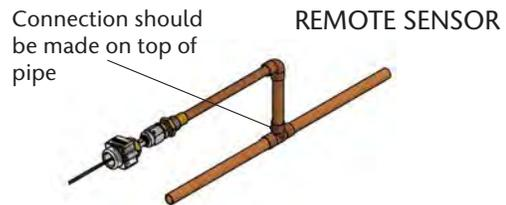

Figure 18: Remote Pipeline Installation
2. Braze copper adapter tube(s) to appropriate pressure/vacuum piping system connections (Figure 18).